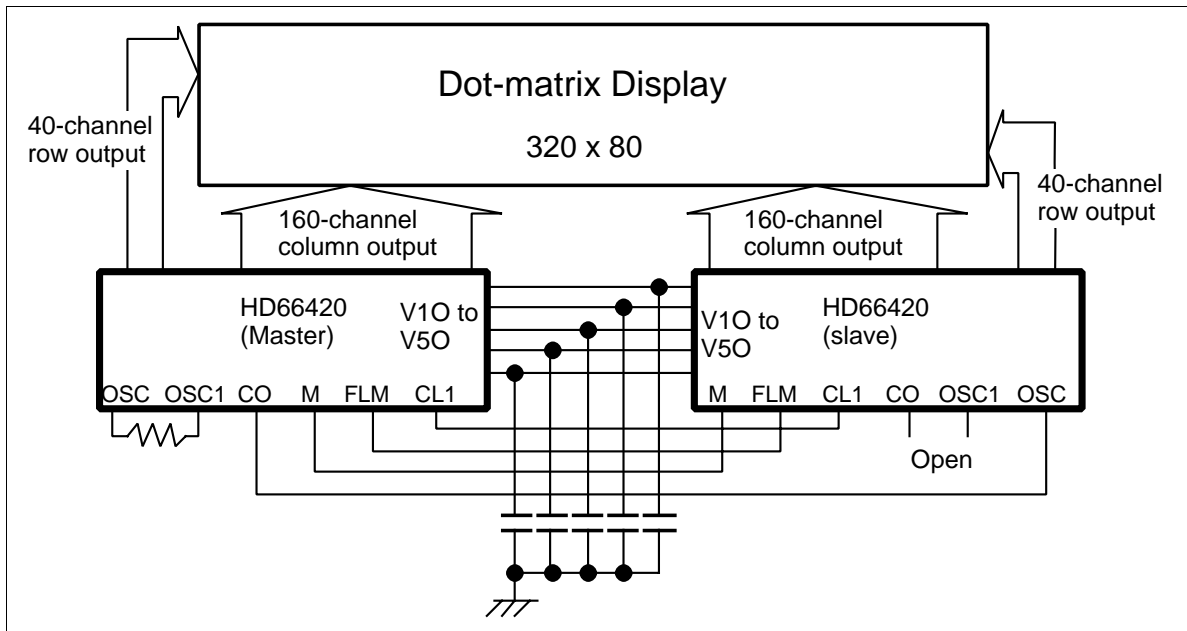

Figure 6 Configuration Using Two HD66420s
**Column Address Inversion According to LCD Driver Layout:** The HD6420 can always display data in address H'0 on the top left of an LCD panel regardless of where it is positioned with respect to the panel. This is because the HD66420 can invert the positional relationship between display RAM addresses and LCD driver output pins by inverting RAM addresses. Specifically, the HD66420 outputs data in address H'0 from SEG1 when the ADC bit in control register 1 is 0, and from SEG160 otherwise. Here, the scan direction of row output is also inverted according to the situation as shown in figure 6. Note that addresses and scan direction are inverted when data is written to the display RAM, and thus changing the ADC bit after data has been written has no effect. Therefore, hardware control bits such as ADC must be set immediately after reset is canceled, and must not be set while data is being displayed.
Figure 6 shows the configuration using two HD66420s and table 2 lists the differences between master and slave modes.
The HD66420 incorporates a bit-mapped display RAM. It has 320 bits in the X direction and 80 bits in the Y direction. The 320 bits are divided into forty 8-bit groups. As shown in figure 6, data written by the MPU is stored horizontally with the MSB at the far left and the LSB at the far right. The consecutive two bits control one pixel of LCD, this means that one 8-bit data contains data which controls four pixels.